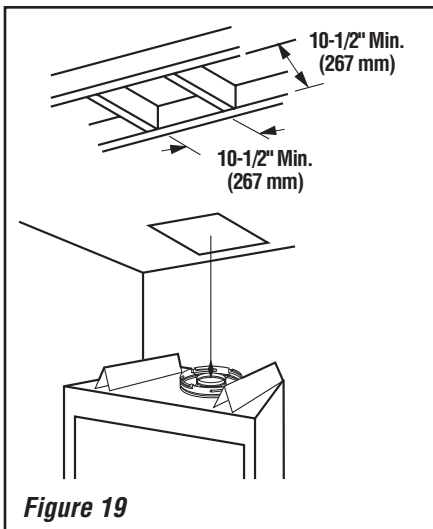

Figure 19
A. Frame ceiling opening - Use a plumb line from the ceiling above the appliance to locate center of the vertical run. Cut and/or frame an opening, 10-1/2" x 10-1/2" (267mm x 267mm) inside dimensions, about this center mark (**Figure 19**).
If the vertical route is to penetrate a ceiling, use plumb line to locate the center above the appliance. Cut and/or frame an opening, 10-1/2" x 10-1/2" (267 mm x 267 mm) inside dimensions, about this center (refer to **Figure 19 on Page 15**).